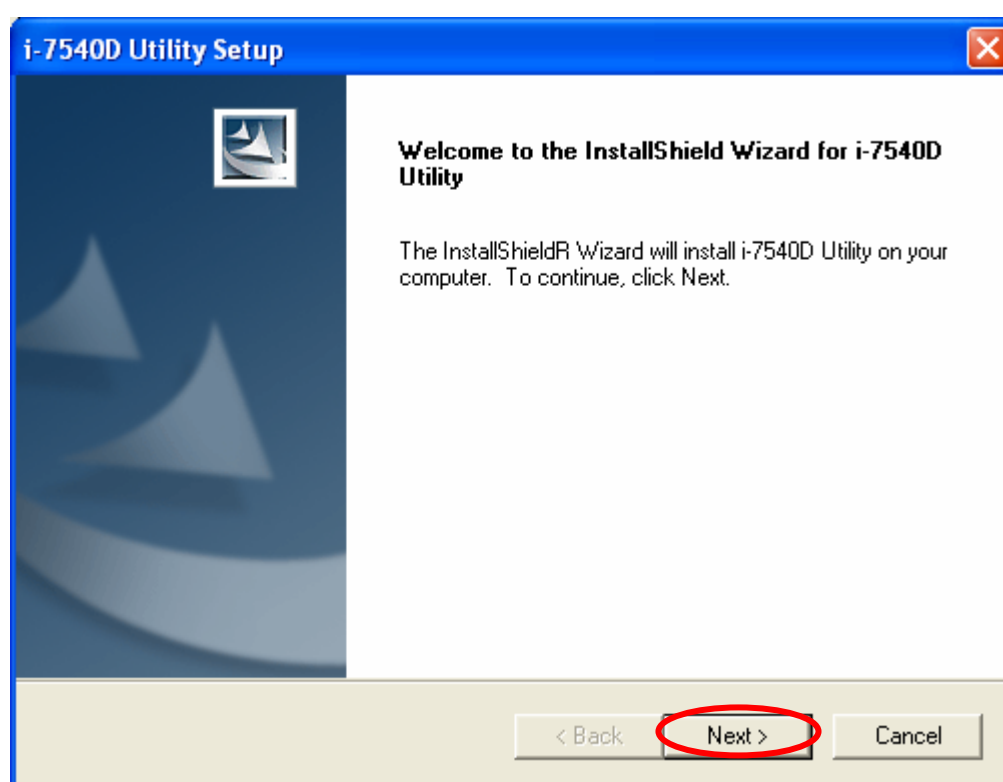

Figure 3-2: Welcome dialog
Step 3: A "Welcome" window pops up to prompt user to begin the installation. See figure 3-2.